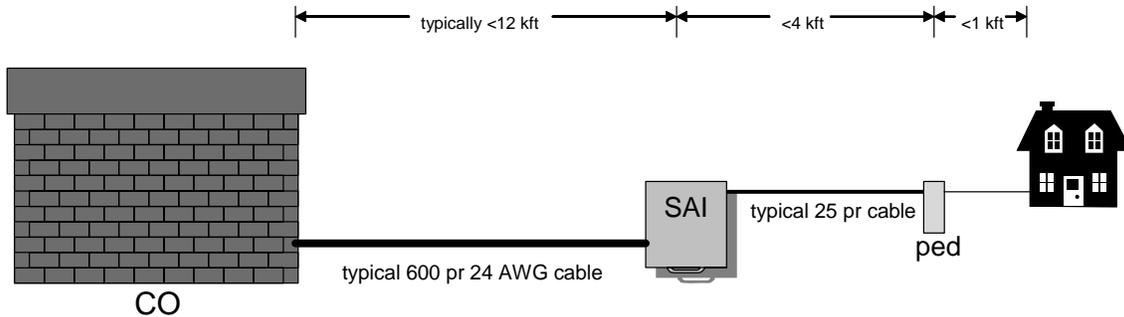

Figure 1. Direct Copper Telephony Feed From the CO
Since the early 1900s to about the mid-1970s, all landline telephony was provided on direct metallic conductors (typically copper twisted pair) out of the Central Office (see Figure 1 below), regardless of the distance of the customer from the Central Office (CO). The majority of the telephony equipment in the CO is powered by commercial AC-fed -48 VDC N+1 redundant rectifiers, backed up by 3-4 hours of batteries (typically multiple strings of flooded batteries). This same nominal -48 VDC appears across the tip and ring pair at the customer's premises. During a commercial power outage, most COs have a standby engine-alternator that will take over the AC load (thus feeding the rectifiers) for outages lasting longer than a minute. For some smaller COs, there is not a permanent on-site engine-alternator. In these cases there is at least 8 hours of battery backup (both the 3-4 and 8 hour minimums are set by federal and state rules in the U.S.), and there is a genset plug on the outside of the building to which a portable generator can be connected.